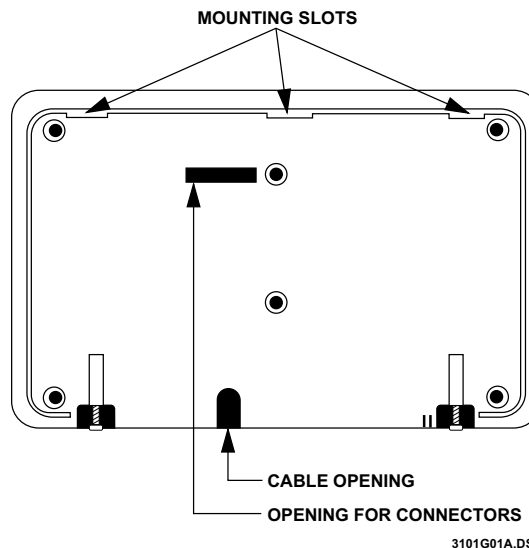

Figure 1. Touchpad Mounting Slots
1. Separate the mounting bracket from the back plate by loosening the two bottom screws and unlatching the tabs from the mounting slots (see Figure 1).
1. Separate the mounting bracket from the back plate by loosening the screws and unlatching the tabs from the mounting slots (see Figure 1).